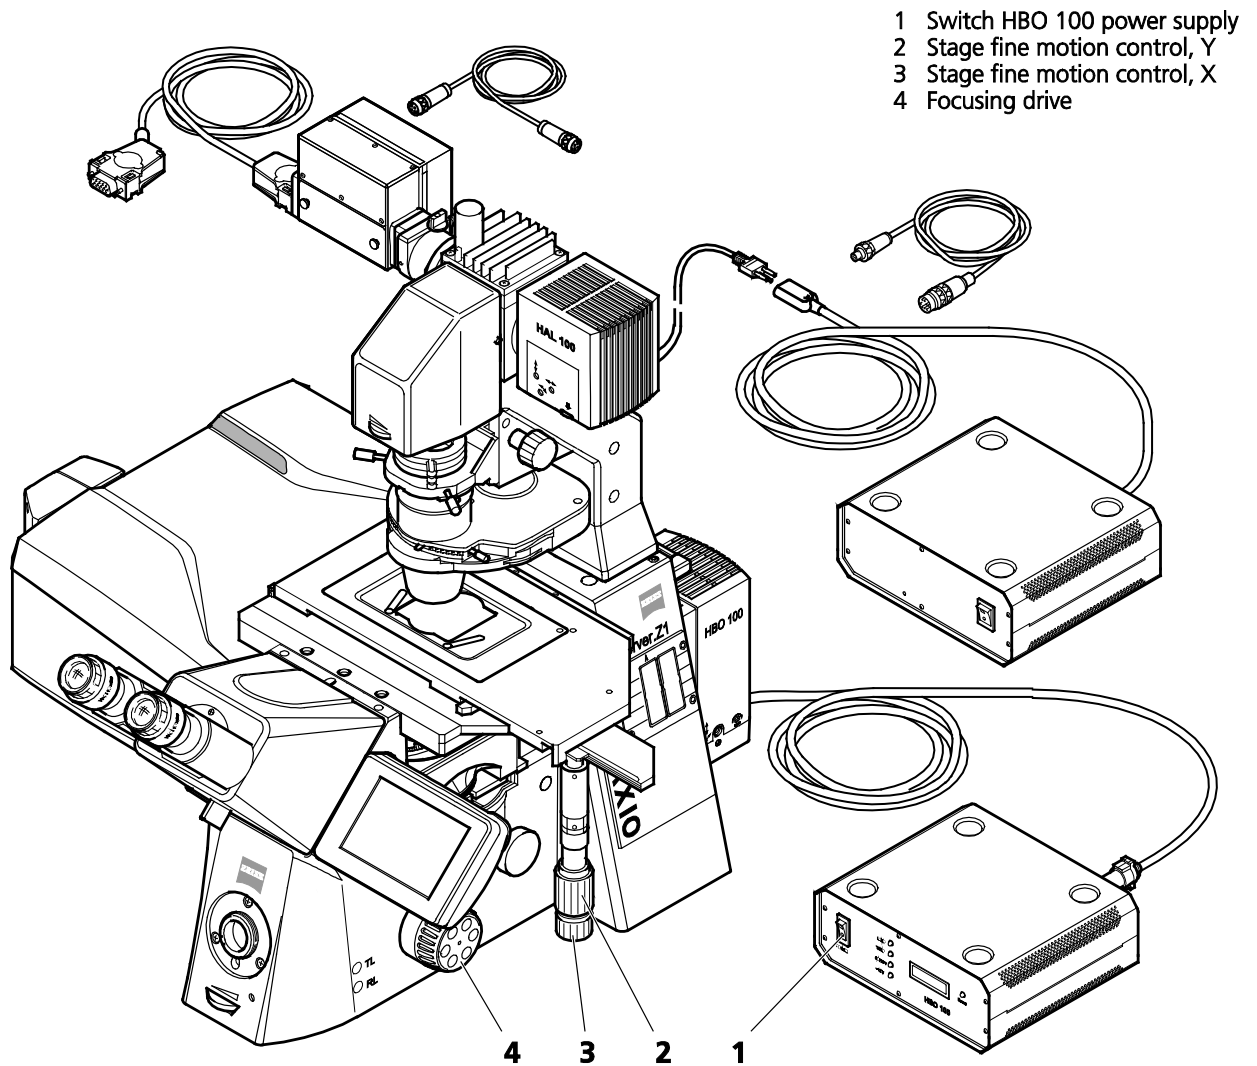

Fig. 59 LSM 880 with AxiObserver.Z1
- Use the focusing drive (Fig. 59/4) to focus the required specimen plane.
- Select specimen detail by moving the stage in X and Y via the XY stage fine motion control (Fig. 59/3 and 2).
(2) Microscope settings on Axio Observer for transmitted-light observation
(3) Microscope settings on AxiObserver for reflected-light observation (Epi-fluorescence)
- Turn on the HBO 100 power supply switch (Fig. 59/1).